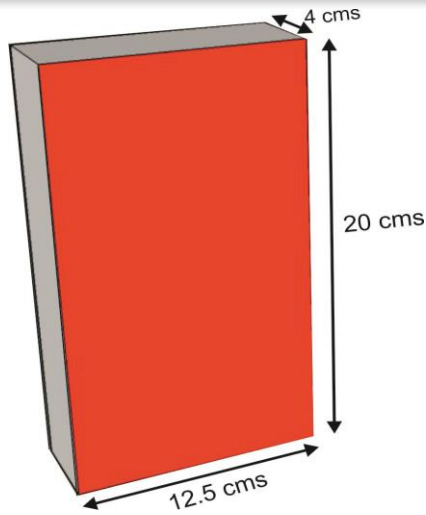

Figure 5: Red (R) Indicator
- Team prepares three Indicators each of Red (R), Green (G), Blue (B) and Black (Bk) color of dimension 12.5cm x 4cm x 20cm (Refer to Figure 5) by covering the thermocol with respective chart papers.